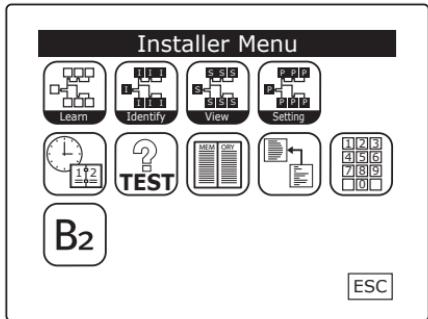

Fig. 4
The modules (B2MIA101, B2MI0401, B2MO0201) can be wall-mounted on a completely flat surface or mounted inside a junction box or even on a DIN rail (fig. 1). Remove the jumper present on the module and insert the one present on the cover (fig. 3). Fix the protection to the module with the screws provided (fig. 4), being very careful that, in the chosen position, the lever (A) of the protection's microswitch is operated and the connection cable (B) between the cover and the module is not accidentally positioned between the two elements.
A keypad will appear on which to enter the **Installer Code** (which at the first start-up will be 5, 6, 7, 8, fig. 3) in order to access the **Installer Menu** (fig. 4).
When the appropriate icon is pressed, the system automatically detects the connected devices (fig. 4).